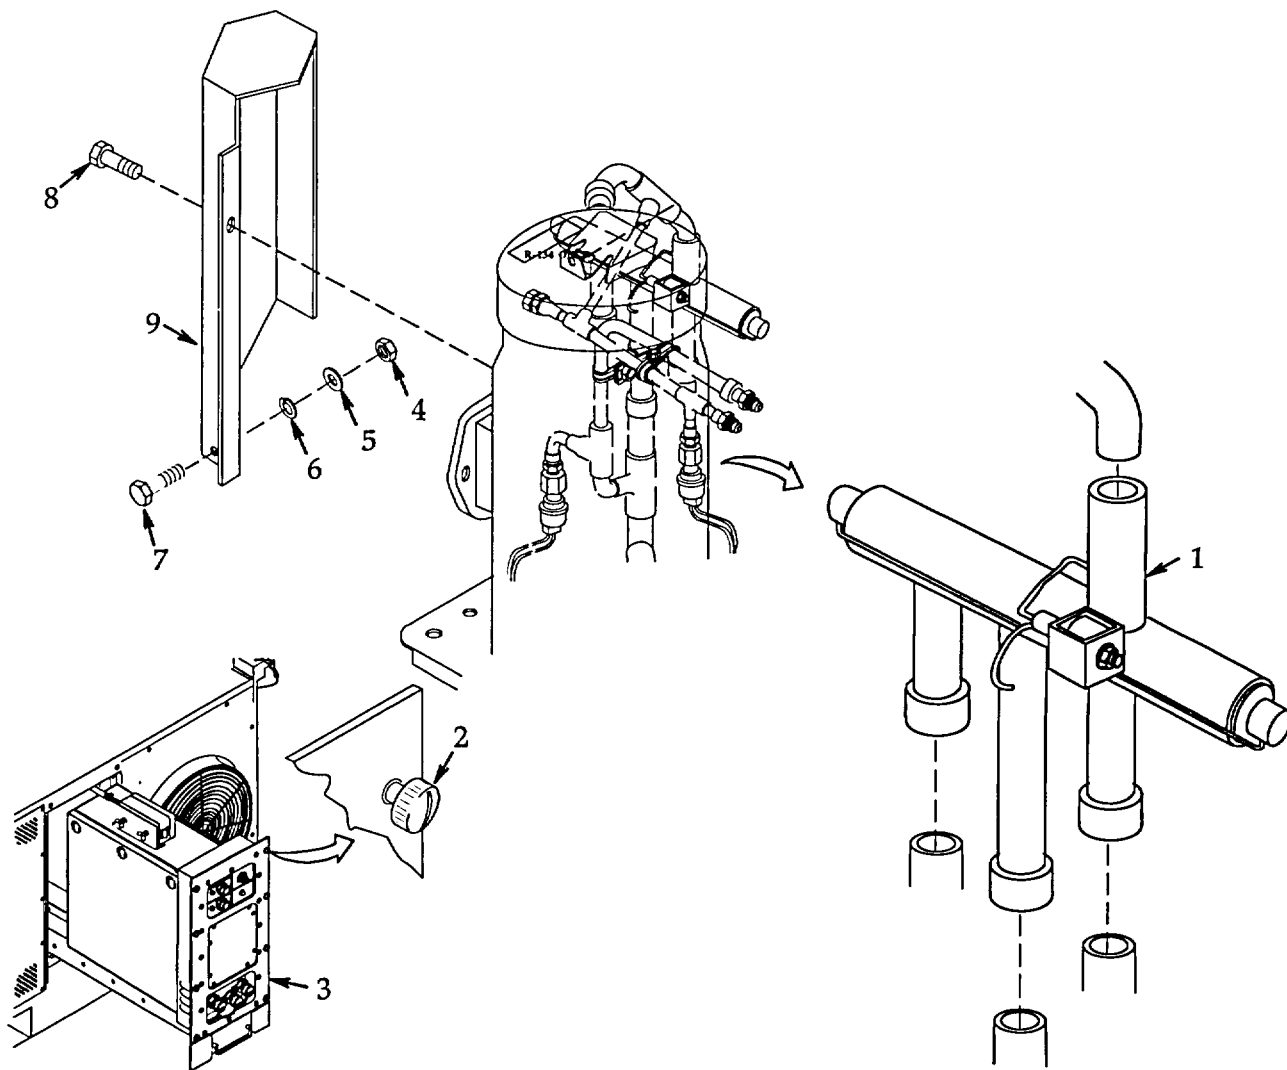

Figure 5-15. Reversing Valve
a. Removal. See figure 5-15.**WARNING**
- (2) Raise and secure cover to access reversing valve (1).
- (3) Remove insulation from tubing as necessary.
- (4) Tag and disconnect reversing valve (1) wire leads.
- (5) Remove and recover system refrigerant per paragraph 5.4.
- (6) Purge the refrigerant system per paragraph 5.5 then de-braze the reversing valve (1) connections per paragraph 5.6 to remove it.
- (7) Loosen eight captive screws (2) and carefully pull the electrical assembly (3) out.
- (8) Remove two nuts (4), lock washers (5), flat washers (6), and screws (7). Discard lock washers.
- (9) Remove screw (8) and reversing valve guard (9).
b. Installation. See figure 5-15.**CAUTION**